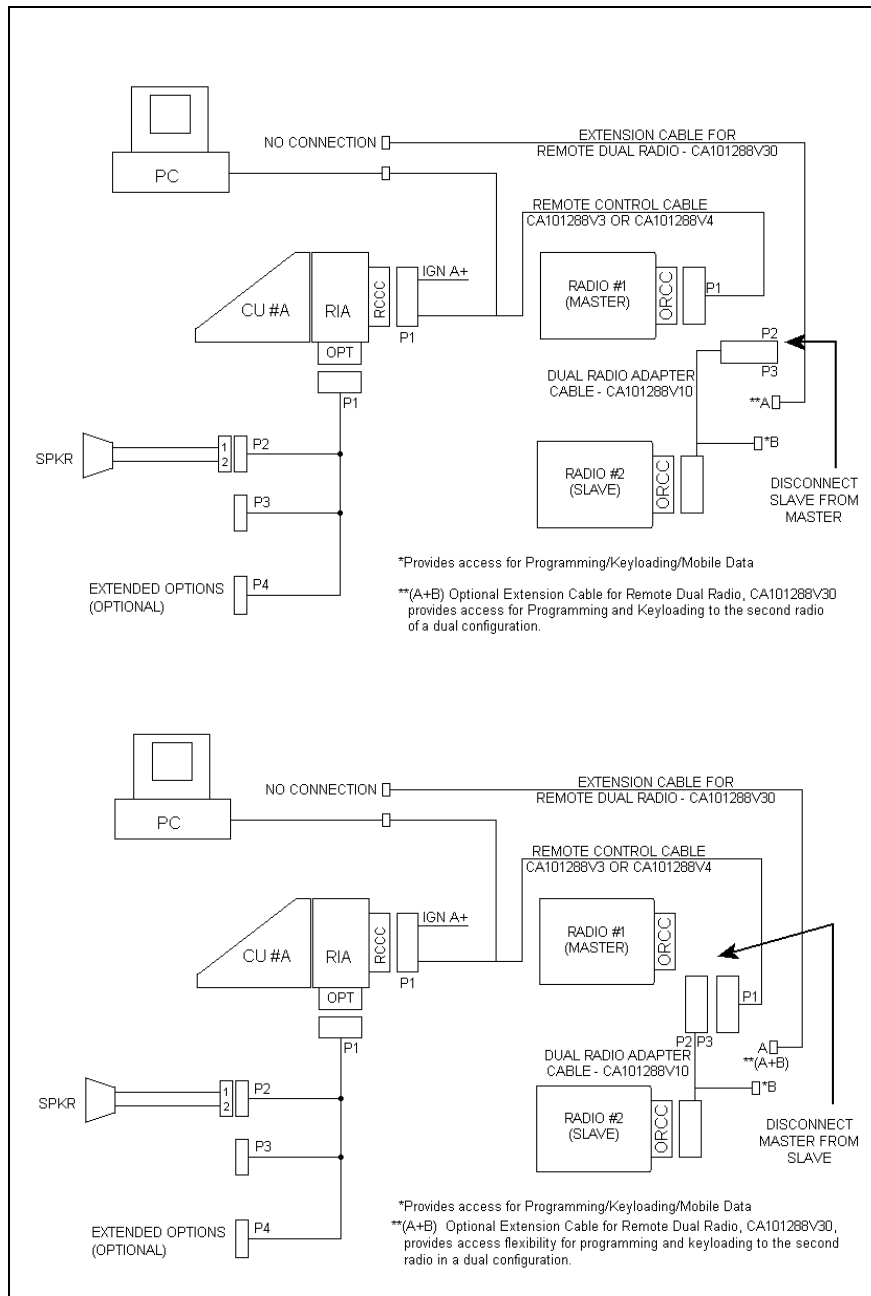

Figure 34 – Dual Radio Configuration – Remote/Remote Mount - PC Programming Procedure
- Step 1** Configure the M7100^{IP} Master Radio per the ProGrammer setup as shown in Figure 34, Step 1 with the Slave Radio disconnected. Program the Master Radio with the control configurations per the Pre-Installation Programming Procedure with ProGrammer – Dual Radio Units and adjust as necessary for the desired application.
- Step 2** Now configure the Slave Radio with ProGrammer as shown in Figure 34, Step 2. The Master Radio should now be disconnected, with the Slave Radio connected as indicated. Program the Slave Radio with the configuration per the Pre-Installation Programming Procedure with ProGrammer – Dual Radio Units and adjust as necessary for the desired application.